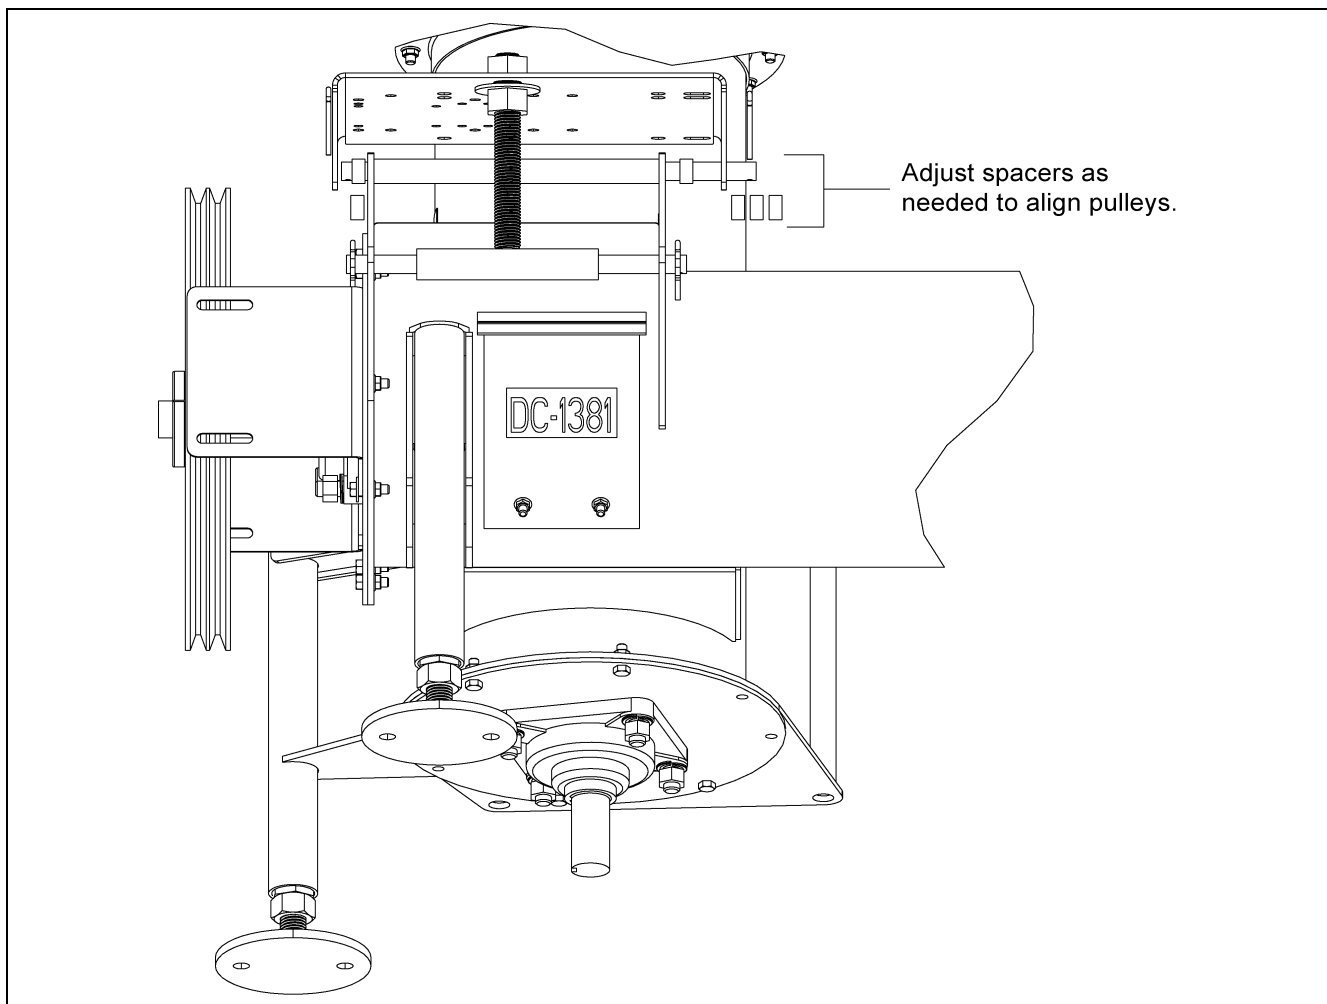
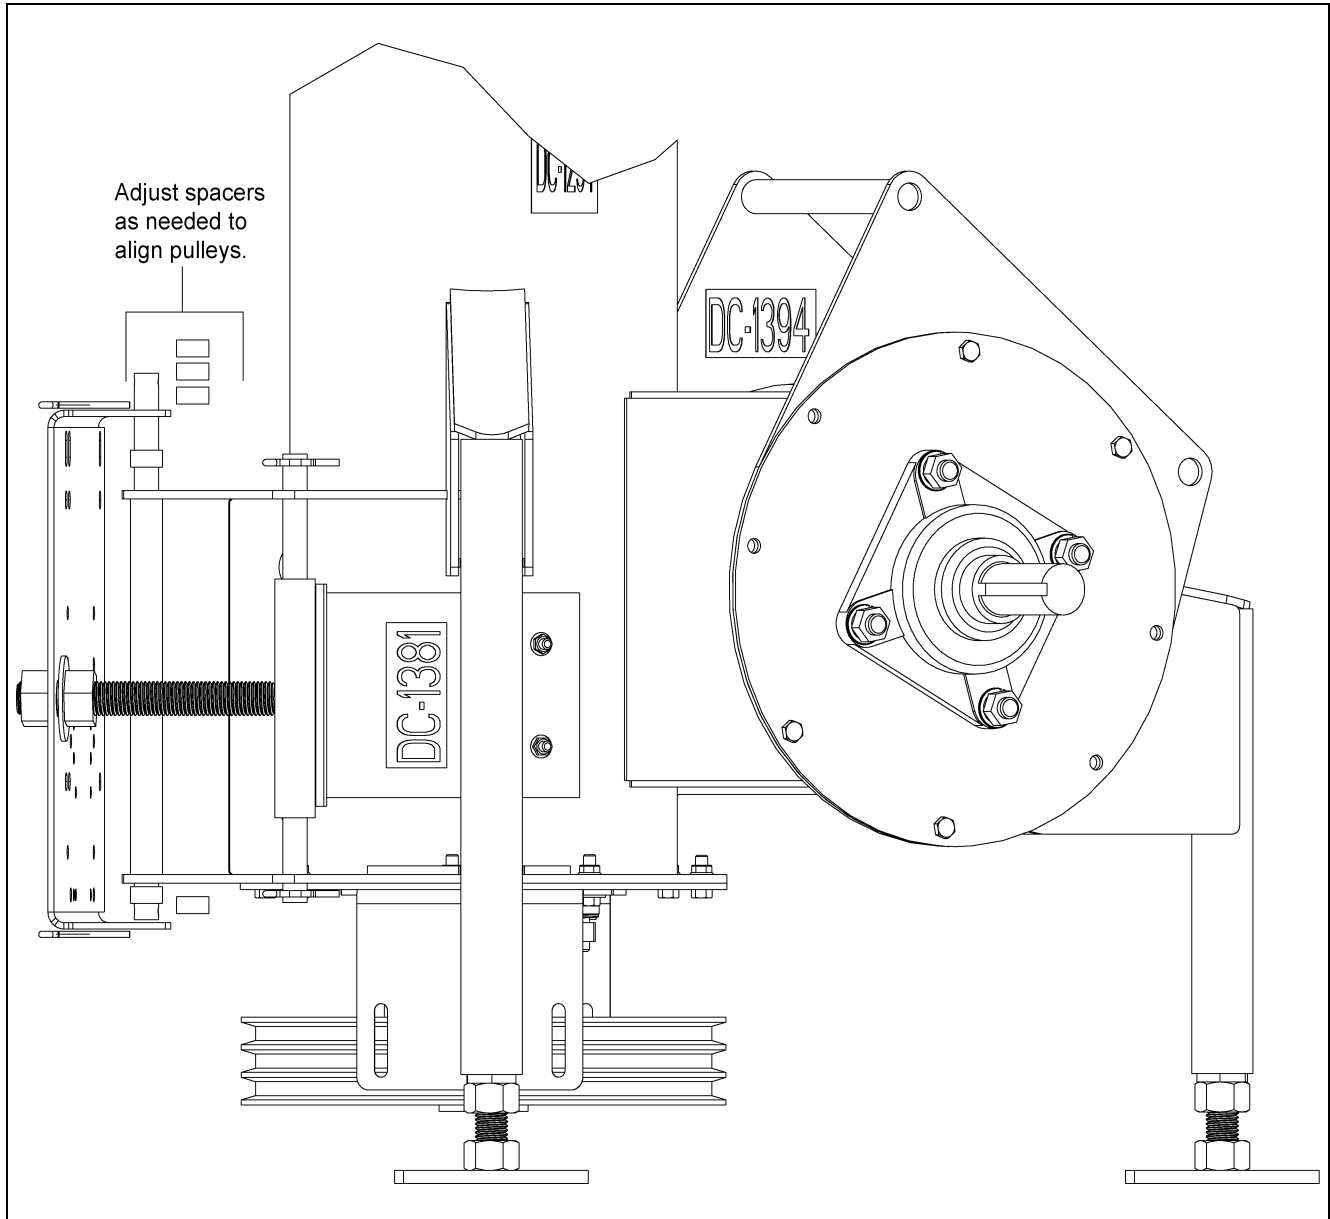

Figure 3P
Figure 3Q
- B. Install pulley onto motor shaft and make sure that it is aligned with the flight pulley. It may be necessary to move spacers to gain shaft alignment. (See Figure 3P below and Figure 3Q on Page 25.)